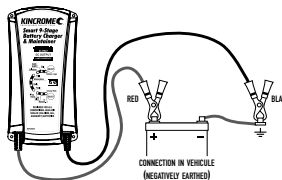

Fig 2
- FIRST Connect the RED (+) Crocodile clip or optional ring terminal lead to the (+) battery terminal and then connect the BLACK (-) Crocodile clip or optional ring terminal lead to the vehicle's chassis (Fig 2).